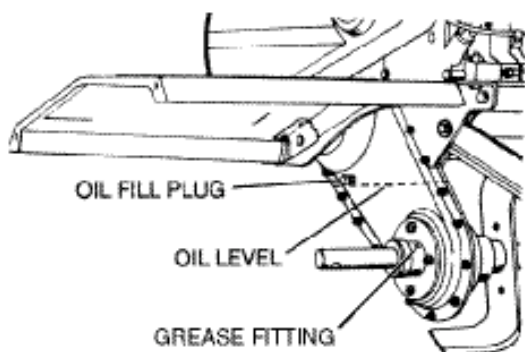

Figure 9
Grease the Tines Shaft using a Grease Gun with General Purpose grease every 8-10 hours. Apply about ten (10) pumps of the grease in the Grease Fitting (**Figure 9**). Perform this lubrication more often in dry and dusty environments.
Check the Transmission Oil Level after the first 5 hours of operation. Remove the Oil Fill Plug (**Figure 9** on page 16). The Oil level must be even with the Plug Hole (with the Tiller level). Add Oil if necessary. Use SAE 30 non-detergent motor Oil. Replace Oil Fill Plug.